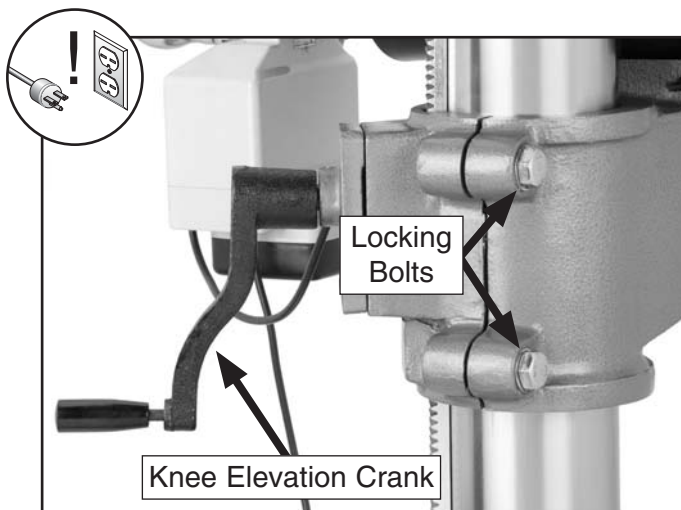

Figure 21. Knee locking bolts and crank.
2. Loosen the two knee locking bolts shown in **Figure 21**.